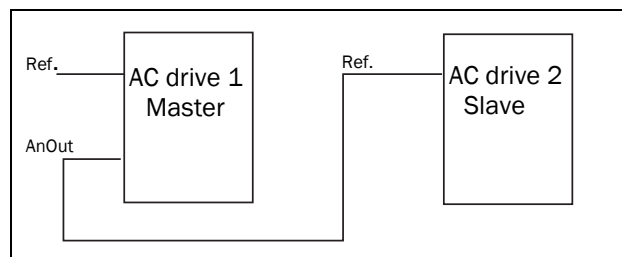

Fig. 136
- a reference signal for the next AC drive in a Master/Slave configuration (see Fig. 136).